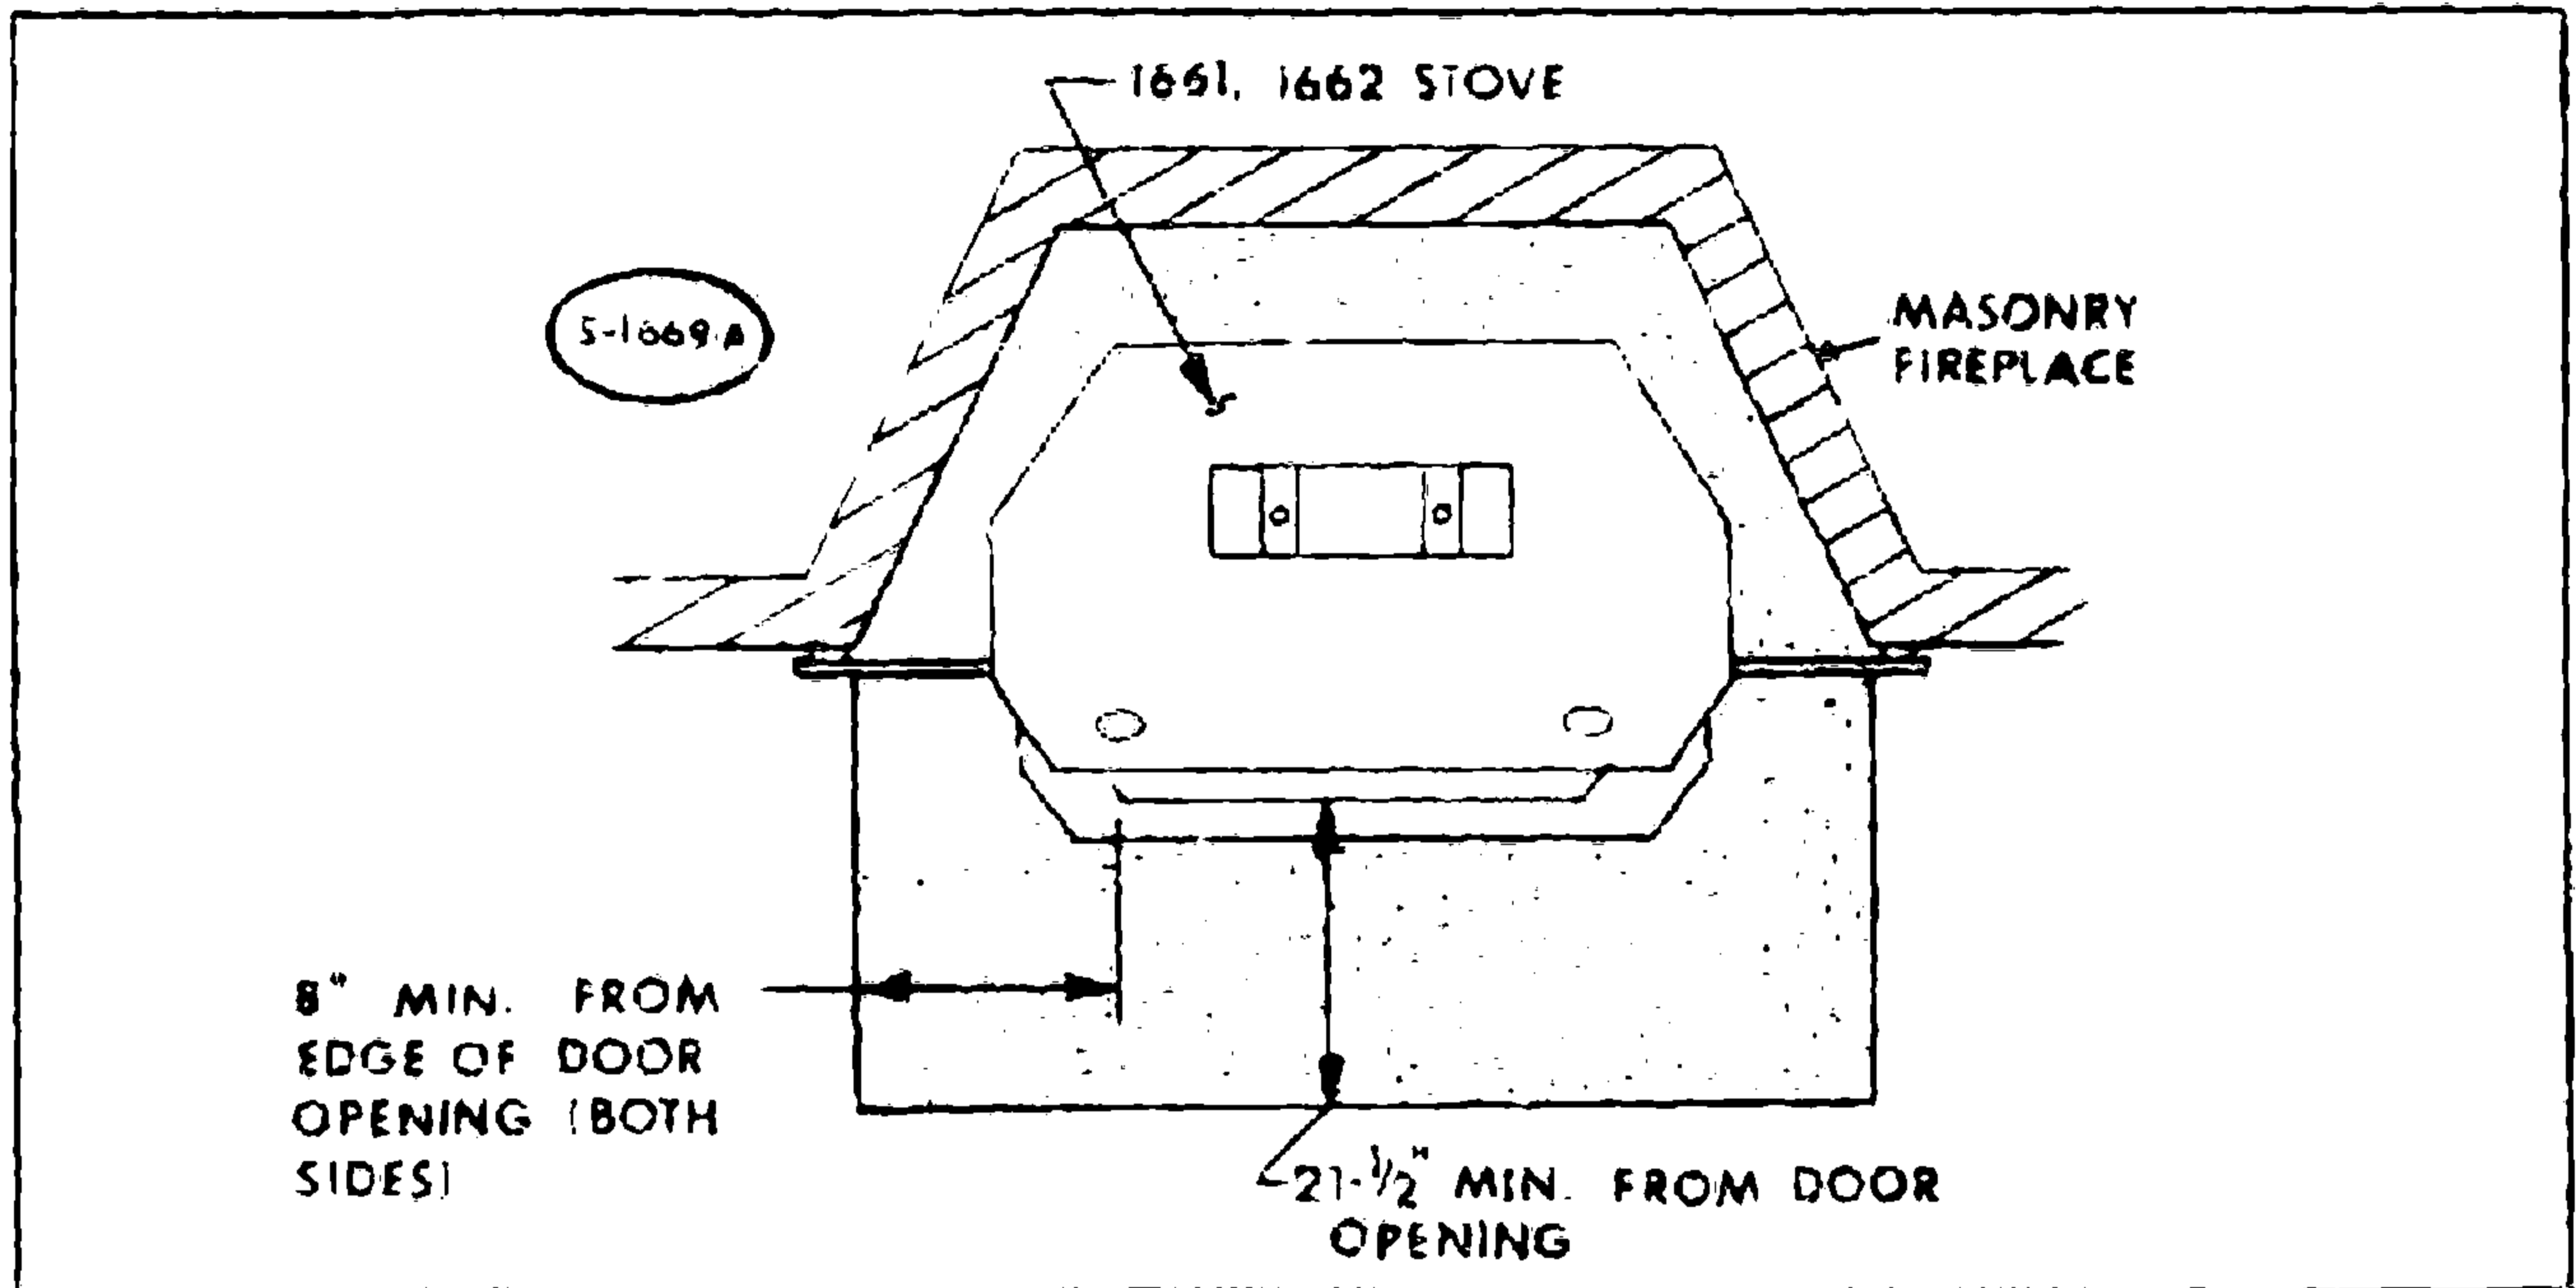

FIG. 6 — INSERT STOVE CLEARANCES
- A. Hearth Extension: 21½" in front of and 8" to either side of the door opening (See Figure 6).